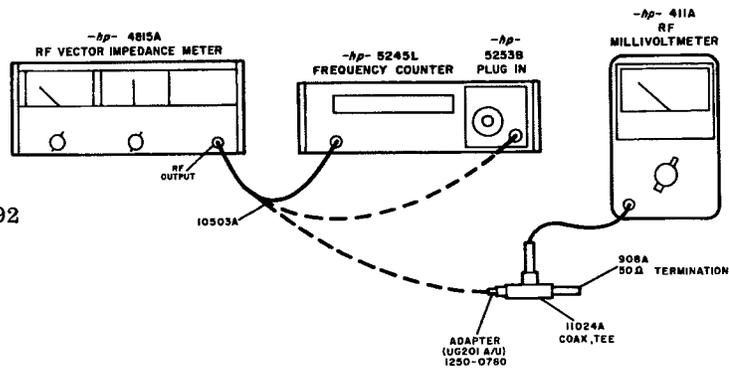

Figure 5-2. Connections for Testing Frequency and Output Level
- a. Connect equipment to counter as shown in Figure 5-2.
- e. Connect RF OUTPUT of 4815A -hp- 411A as shown in Figure 5-2.